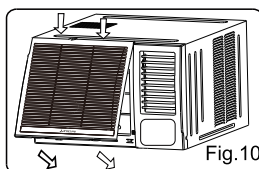

Fig.10
- Hang the front panel on the frame's buckle, then press the front panel into the frame's slot until you hear a click (See Fig.10).